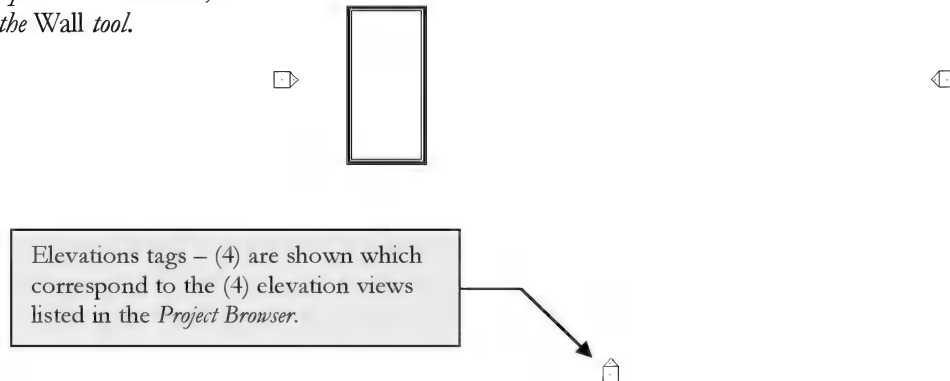

FIGURE 6-3.1 Bldg. and Elev. tags
5. Using the *Wall* tool with the wall *Type* set to “**Exterior - Brick on Mtl. Stud**,” and draw a **40'-0" x 20'-0"** building (Figure 6-3.1).